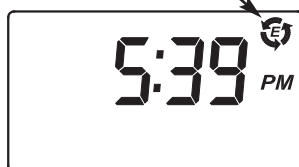

FIG. 24
3. Press the PROGRAM button three times to return to the normal run display (See Figure 24).